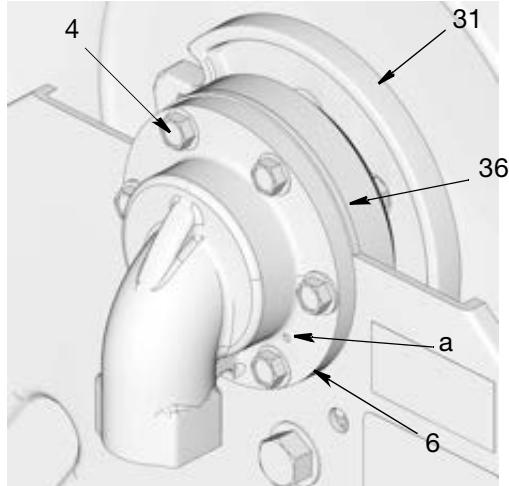

FIG. 20
- The inlet (6) is designed with a weep hole (a) to indicate a failed seal (FIG. 20).
- Remove the six bolts (4) (FIG. 20).